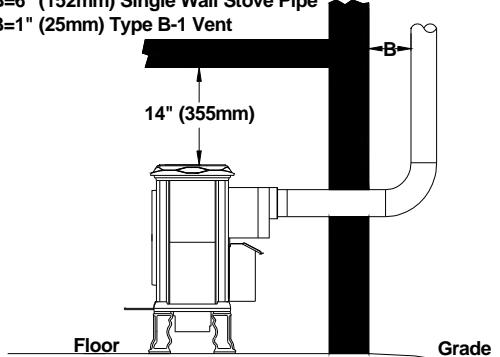

Figure 4: Stove Top & Stove Pipe Clearances
**Stove Top Clearance:** 14" (356-mm) (*Figure 4*)
Single Wall = 6" (152-mm); Type B-1 Vent = 1" (25-mm) (*Figure 4*)